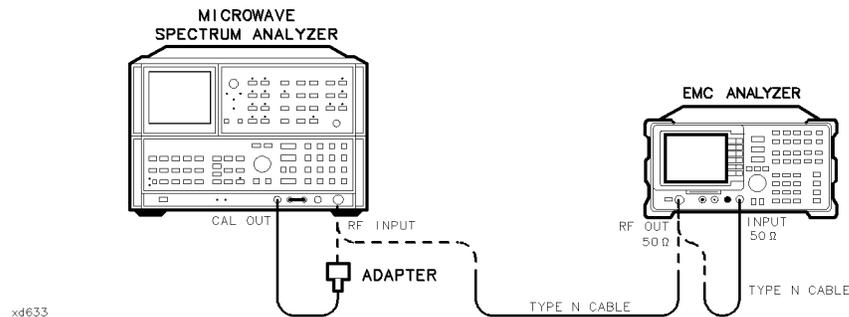

Figure 2-80.
2. Connect the Type N cable between the RF OUT $50\ \Omega$ and INPUT $50\ \Omega$ connectors on the EMC analyzer. See Figure 2-80.
4. Connect the Type N cable from the tracking generator output to the microwave spectrum analyzer RF INPUT as shown in Figure 2-80.